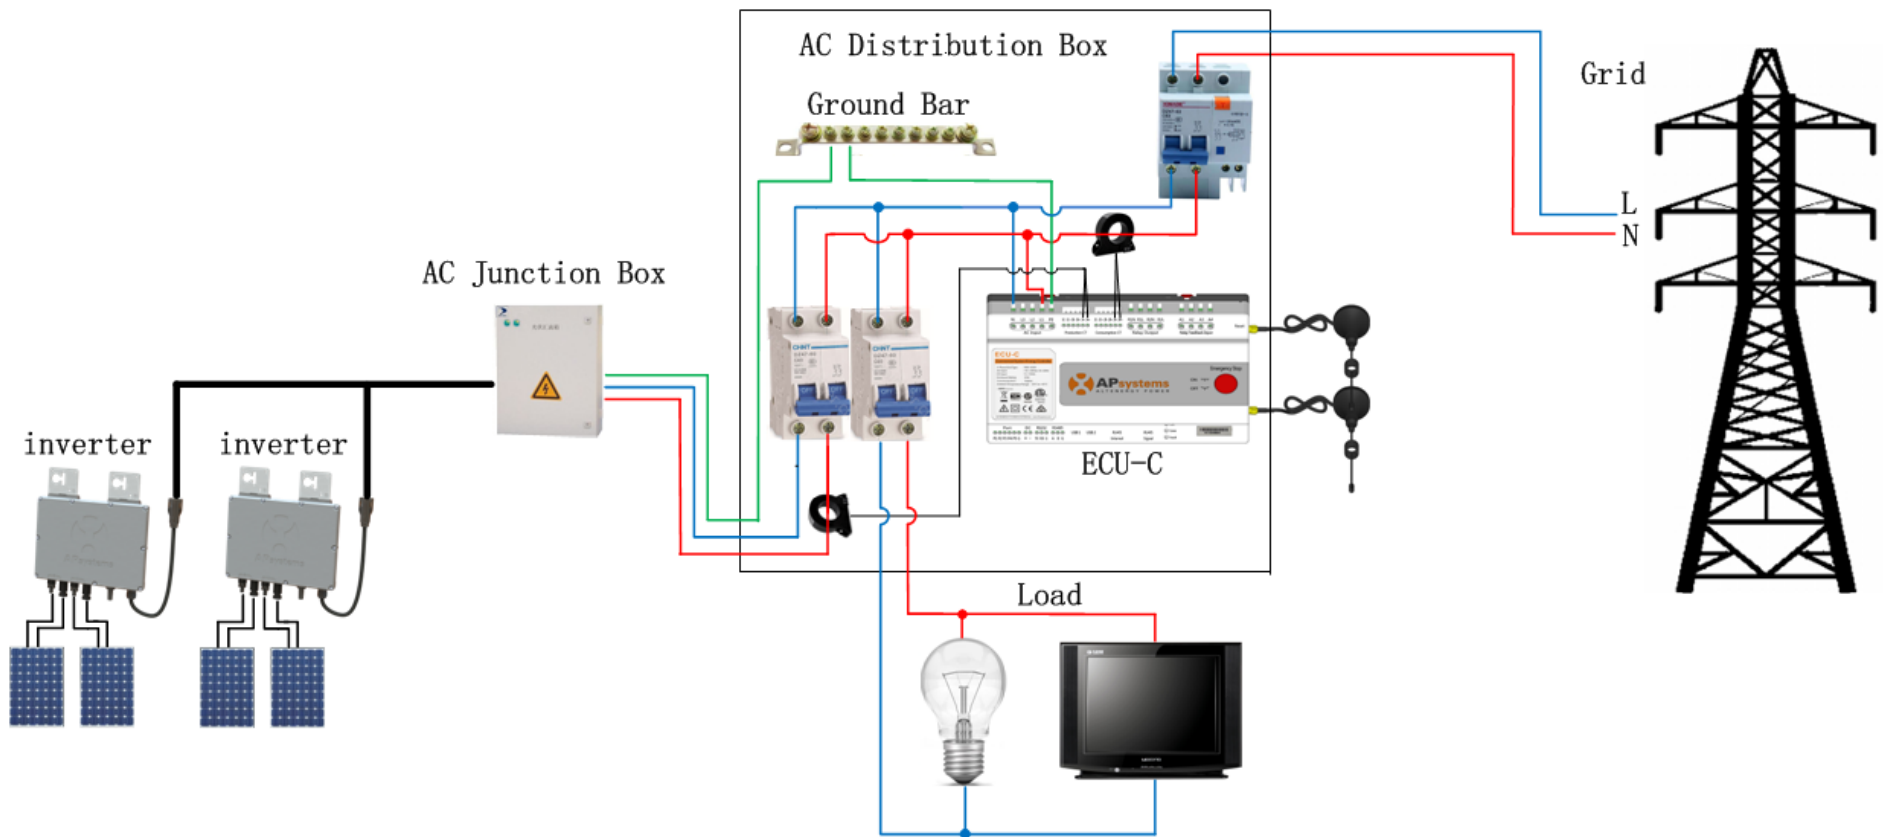

Figure1
APsystems YC500/YC600 Anti-backflow System solutions schematic diagram, please refer to figure 1. By installing Current Transformer(CT) at the power generation side of PV system and the grid side, ECU-C could measure the generation&grid power and energy. When the grid side current measured by the CT is negative, the electric current will flow back into the grid. Before the backflow occurs or the backflow power is greater than the power limit, ECU-C will shut all the inverters down through communication. According to the power calculation, under the condition of no backflow or backflow power smaller than the power limit, ECU-C will turn on inverters one by one as many as possible to guarantee the maximum power generation.